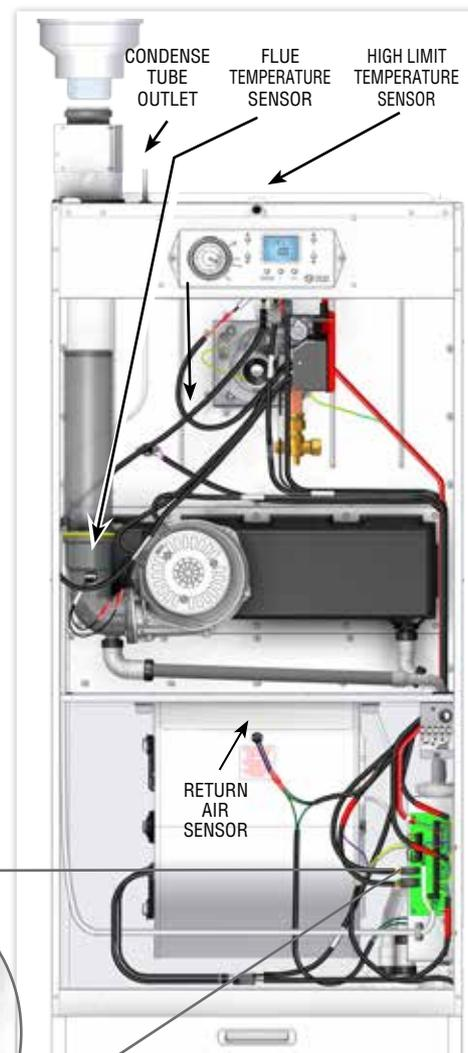

FIGURE 26.
17.4.2 Remove the air circulation fan assembly as described in section 17.3. See Figure 26.